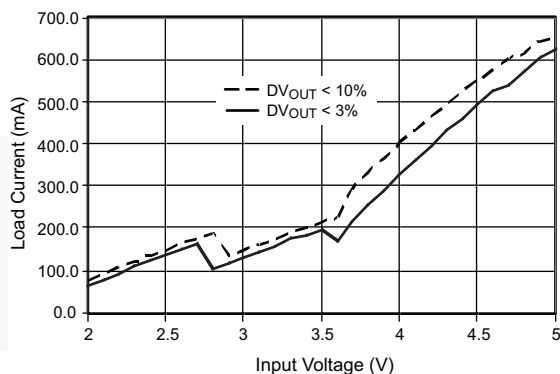

Figure 9. Output Current Capacity vs. Input Voltage
3. Refer to Figure 9 in Typical Performance Characteristics.